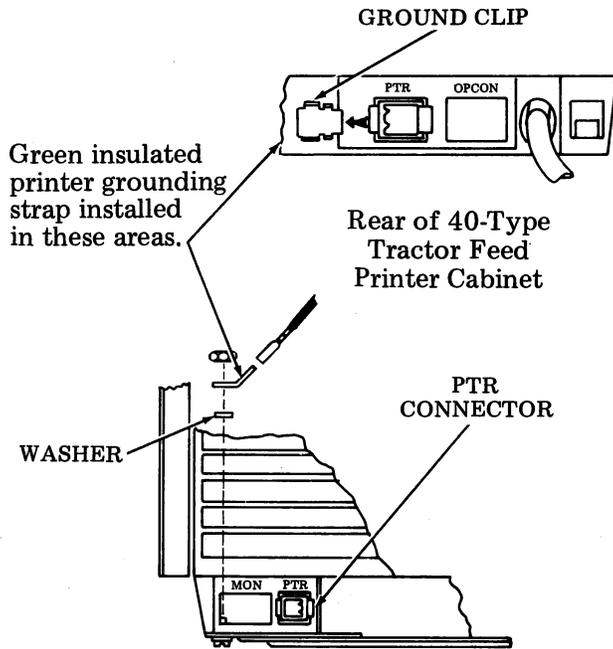

Fig. 4—Rear of 40-Type Friction Feed Printer Cabinet
3.05 Refer to Figs. 4 through 10 and check for and correct any defects in the general appearance of the station: